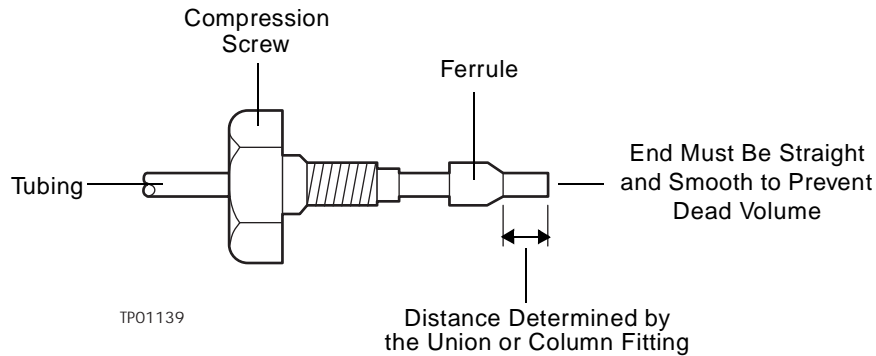

Figure 1-7 Compression Screw Assembly
3. Assemble a compression fitting (as shown in Figure 1-7) at both ends of the column outlet line and at one end of the detector outlet line.